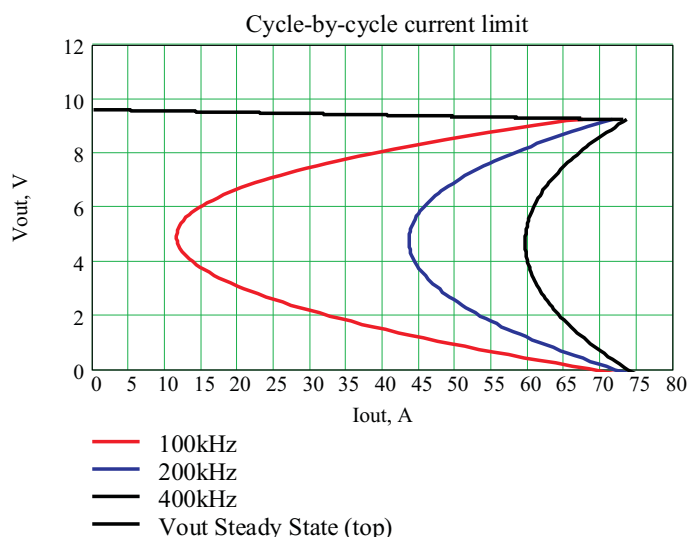

Figure 39. Output Voltage at Cycle-by-Cycle Current Limit
Figure 39 shows the output voltage as function of the average load current limited by the cycle-by-cycle current limit threshold after substituting (9) into (10). These plots are generated for the following conditions: $V_{IN} = 48\text{ V}$, $N_{TR} = 5$, $L_O = 0.1\text{ }\mu\text{H}$, $L_m = 75\text{ }\mu\text{H}$, $I_{O(lim)} = 73\text{ A}$, $R_{pr} = 25\text{ m}\Omega$ and $R_{SEC} = 4\text{ m}\Omega$ at $F_{SW} = 100\text{ kHz}$, 200 kHz and 400 kHz . This fold back type of behavior limits the start-up capability of unregulated IBC. One can see that at 100-kHz switching frequency and 0.5 duty cycle (i.e., $V_O \approx 5\text{ V}$), only about 11.5 A average current is available to charge the output capacitor while at 400 kHz, the charge current can be as high as 60 A. The plots in Figure 39 show the required average charge current reflected to the primary side of the converter with $N_{TR} = 5:1$ for different output capacitor values depending on the selected soft-start time, which do not count extra current drawn by the load itself. Therefore the significant output inductor current ripple not only can trip the peak current mode control current limit circuit to reduce the average output inductor current available to charge the output capacitor, but also can cause the hiccup or latch off of the converter to prevent it from starting at all. Increasing the current limit threshold to allow the normal start up of the converter can cause potential overstress if for some reason the load exceeds its nominal current during the steady state operation.